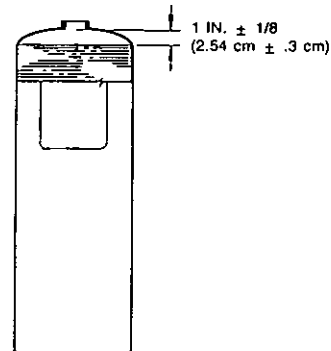

FIGURE 15
13. Refill each tank with 1.5 gallons (5.8 L) or 3.0 gallons (11.6 L) of new ANSULEX Low pH Liquid Fire Suppressant. When filled, level of liquid should be 1 in. $\pm$ 1/8 (2.54 cm $\pm$.3) from bottom of fill opening. See Figure 15.